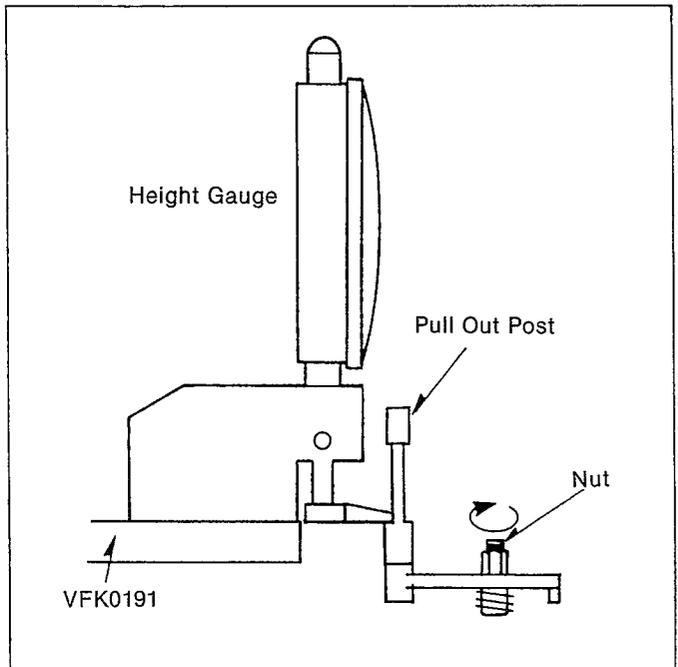

Fig. M17
5. Place the Reel Table Height Gauge as shown in Fig. M17 and turn the nut slowly until the gauge reads  $-0.06 \pm 0.01\text{mm}$ .